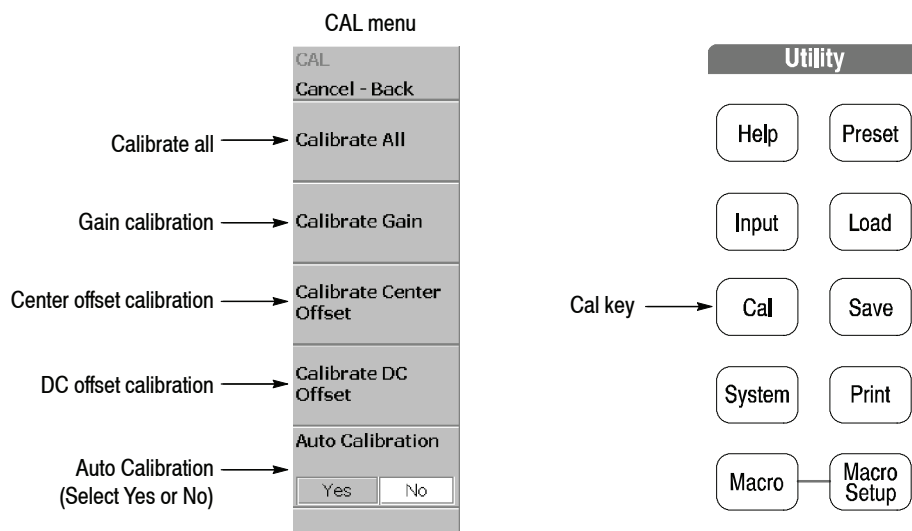

Figure 4-7: Calibration menu
1. Press the **Cal** key on the front panel (see Figure 4-7).
NOTE. *Enabling Auto Calibration (see Figure 4-7) allows the analyzer to run the center offset calibration automatically as analyzer settings change.*